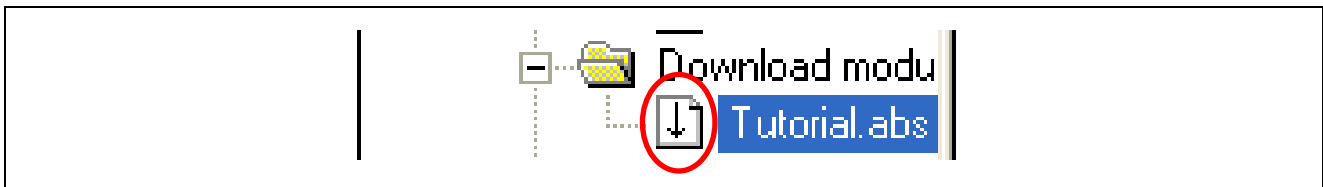

Figure 4.14 Program Downloading Completed
- (2) When loading is completed, a down arrow is added on the file icon as shown in Figure 4.14.